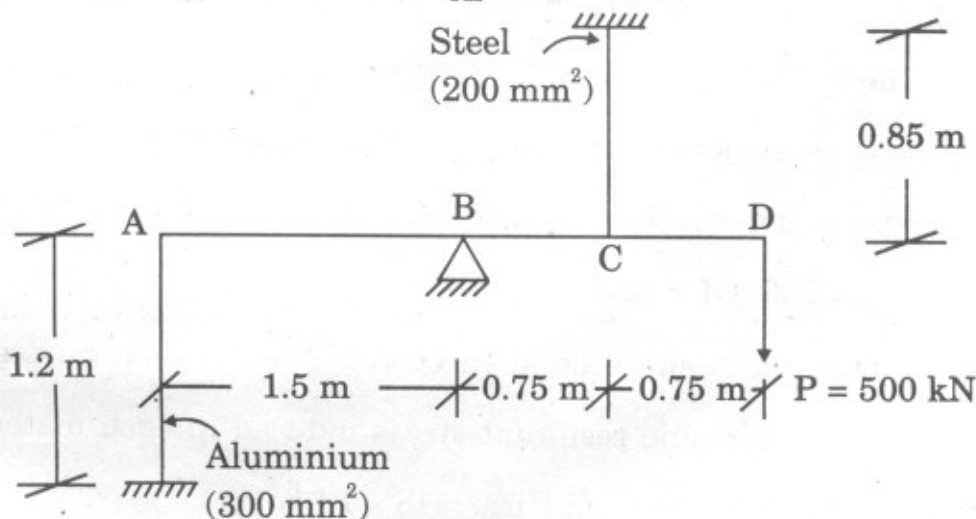

Fig. 1.1
1. (a) A rigid bar ABCD pinned at 'B' and connected to two vertical rods is as shown in Fig. 1.1. Assuming that the bar was initially horizontal and the rods stress free, determine the stress in each rod after load  $P = 500 \text{ N}$  is applied at 'D'.